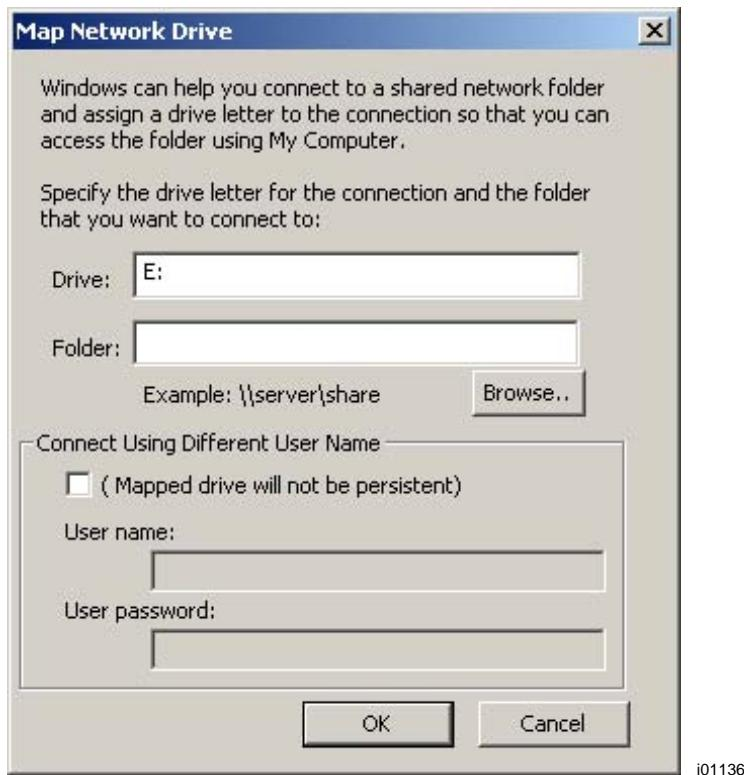

Figure 12.11.6 Enter E: in the Drive box and Browse for the file you shared on your computer.
3. In the Drive box, type in "E:" You must type in both the "E" and the ":". See Figure 12.11.6 below. (Drive letters A through D are used by other drives.)